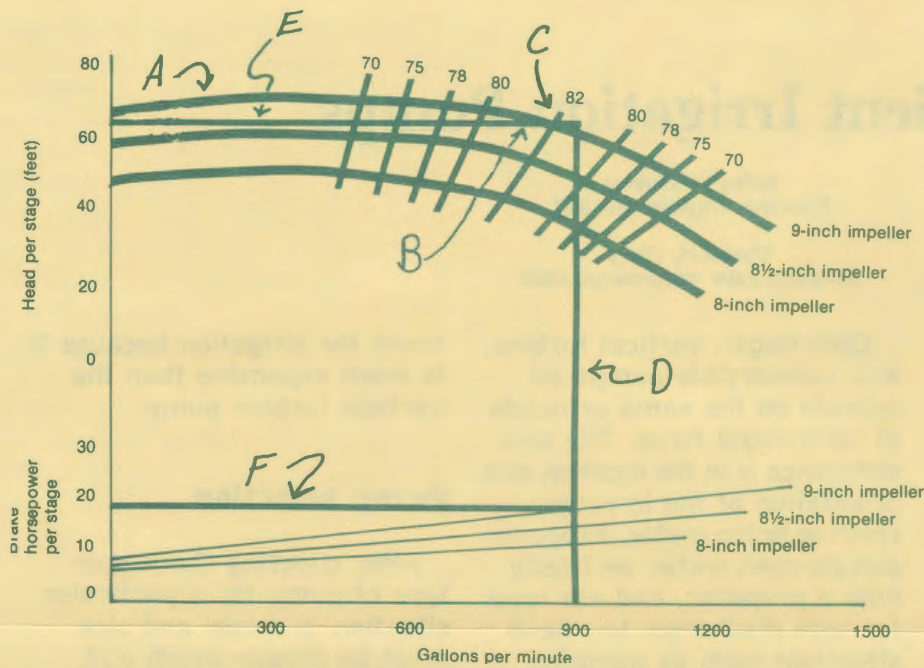

Fig. 1. Pump curve for a hypothetical pump. The irrigator needs 910 gpm; maximum efficiency is at 850 gpm.
After choosing the proper type of pump for a particular situation, a model and size must be chosen which will operate efficiently. Pump characteristic curves are used to make the selection. They are graphic relationships between pressure, discharge, and operating efficiency. Figure 1 is an example.
Every pump has its own unique performance curve which shows how efficiently it will operate for different combinations of discharge and pressure. Under normal operating conditions, pressure will decrease as discharge increases (A in Fig 1). Superimposed on the curve are lines showing the efficiency of the pump (B). The objective of pump selection is to find a curve that will give the desired pressure and discharge at the highest efficiency.
To read a pump curve move vertically from the discharge you want (915 gpm) to curve A (line D in Fig 1), move back horizontally to read the pressure (63 ft per stage) (line E). Read the efficiency from curve B (81 per cent). Table 3 gives one example.
Examination of the pump curve (Fig 1) leads to several conclusions. First, the pump reaches its highest efficiency at 850 gpm with a pressure of 62 feet per stage (bowl and
Horsepower is found by moving vertically from the discharge to the horsepower curve (curve G in Fig 1) and horizontally to read the power required per stage line (line F). Total horsepower (horsepower per stage times the number of stages) is the power requirement of the pump. It is the nameplate horsepower of an electric motor or the continuous horsepower rating of the internal combustion engine needed to drive the pump. Table 4 is one example of power unit sizing.